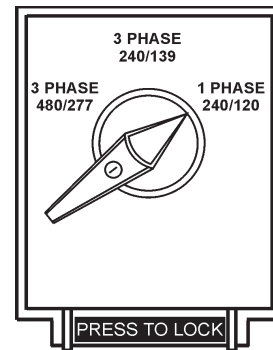

**Figure 24. UVWO Terminal Lugs
2. Connect the load wires to the UVWO terminals as shown in Figure 24.